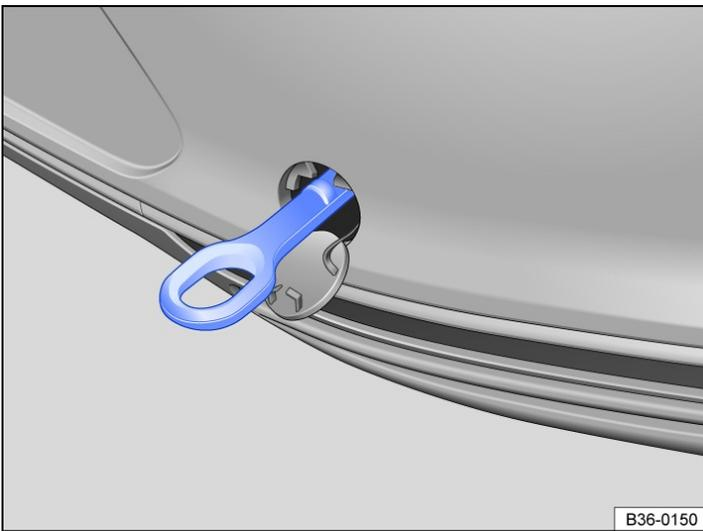

Fig. 3 In the rear bumper on the right: screwing in the towing eye, variant 1.
4. Turn the towing eye as shown by the arrow into the threaded hole and tighten as far as possible → Fig. 3, → ⚠. Use a suitable object to screw the towing eye fully and securely into the mounting.